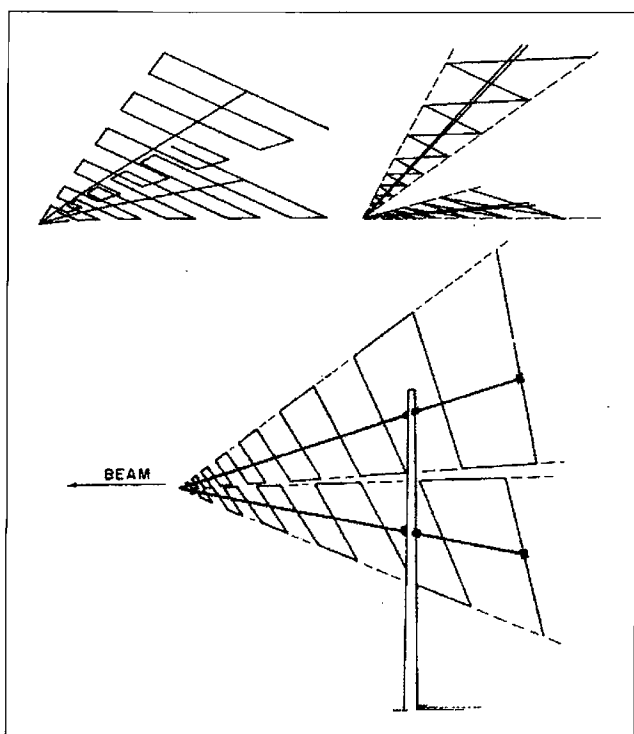

Fig. 3. Trapezoidal log periodics.
3) The trapezoidal zigzag or sawtooth configuration, Fig. 3. This type, being more complicated and not too suited for HF ham applications, will not be covered by this article, which will deal only with the first two types.